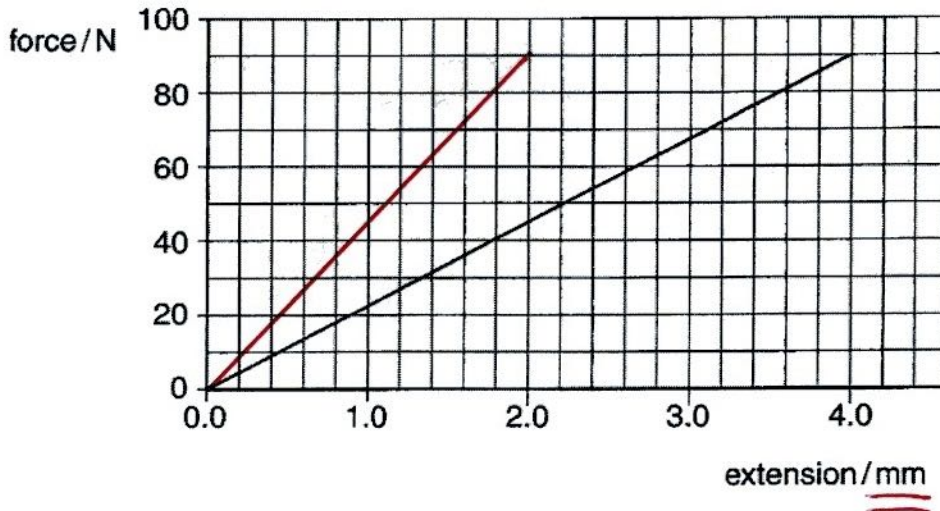

Fig. 11.1
Guitar strings can be made from tensile steel wire. A sample of steel wire is tested in the laboratory. Fig. 11.1 shows the force-extension graph obtained when the wire is stretched.
- (i) **Sketch on the axes of Fig. 11.1** the force-extension graph you would expect for this wire, as the force is increased to 90 N. [1]